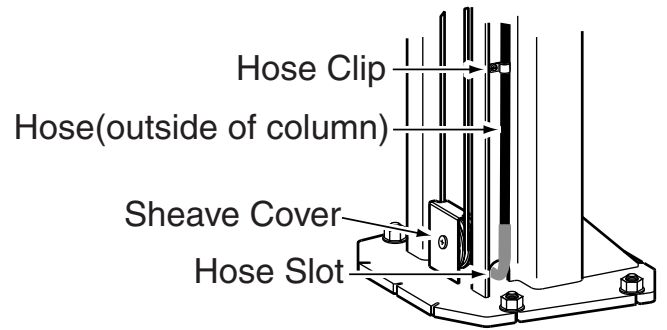
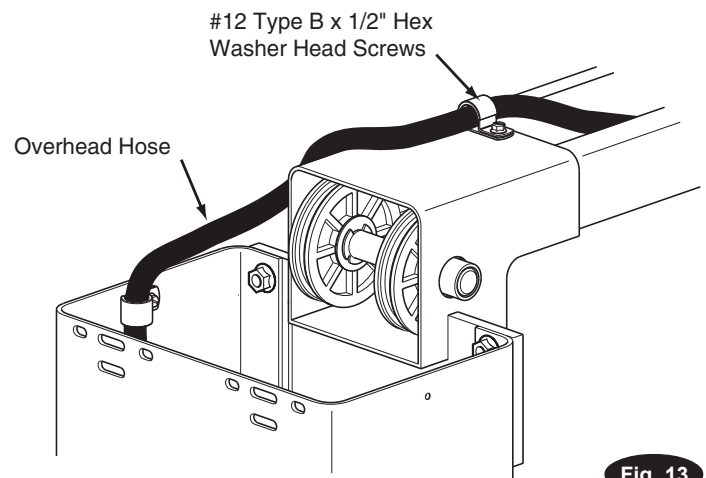
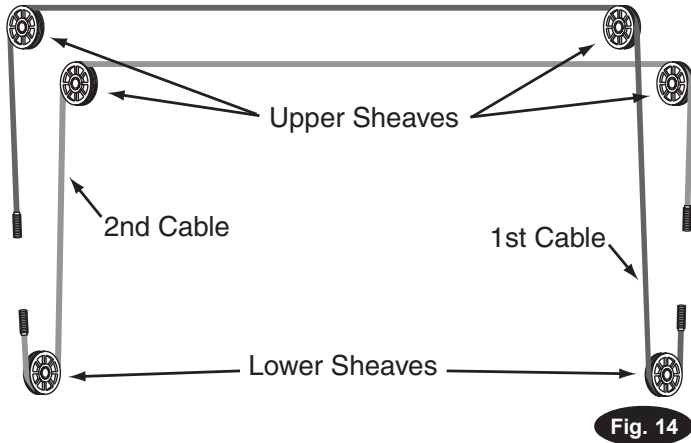

Fig. 12
Fig. 13
Fig. 14
NOTE: Route Power Unit hose inside columns using slots provided at column base, Fig. 12. Route Overhead Hose in column channel on outside of column, Fig. 12. Overhead hose goes over top end of overhead assembly, Fig. 13.
- B) Refer to Fig.14 for the general cable arrangement.
- F) Run cable around the lower sheave, then up and around overhead sheave and across and down to the opposite carriage, Fig. 14. Install sheave cover, Fig. 12.